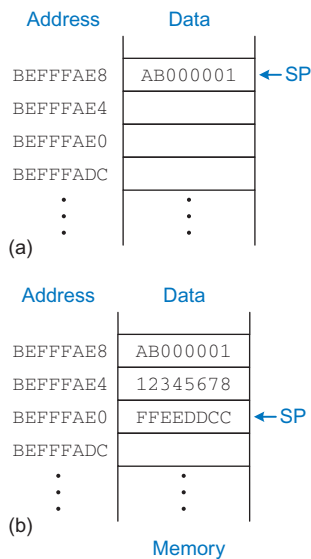

Figure 6.11 The stack (a) before expansion and (b) after two-word expansion
Figure 6.11 shows a picture of the stack. The stack pointer, SP (R13), is an ordinary ARM register that, by convention, *points to the top of the stack*. A pointer is a fancy name for a memory address. SP points to (gives the address of) data. For example, in Figure 6.11(a), the stack pointer, SP, holds the address value 0xBEFFFAE8 and points to the data value 0xAB000001.
The stack pointer (SP) starts at a high memory address and decrements to expand as needed. Figure 6.11(b) shows the stack expanding to allow two more data words of temporary storage. To do so, SP decrements by eight to become 0xBEFFFAE0. Two additional data words, 0x12345678 and 0xFFEEDDCC, are temporarily stored on the stack.